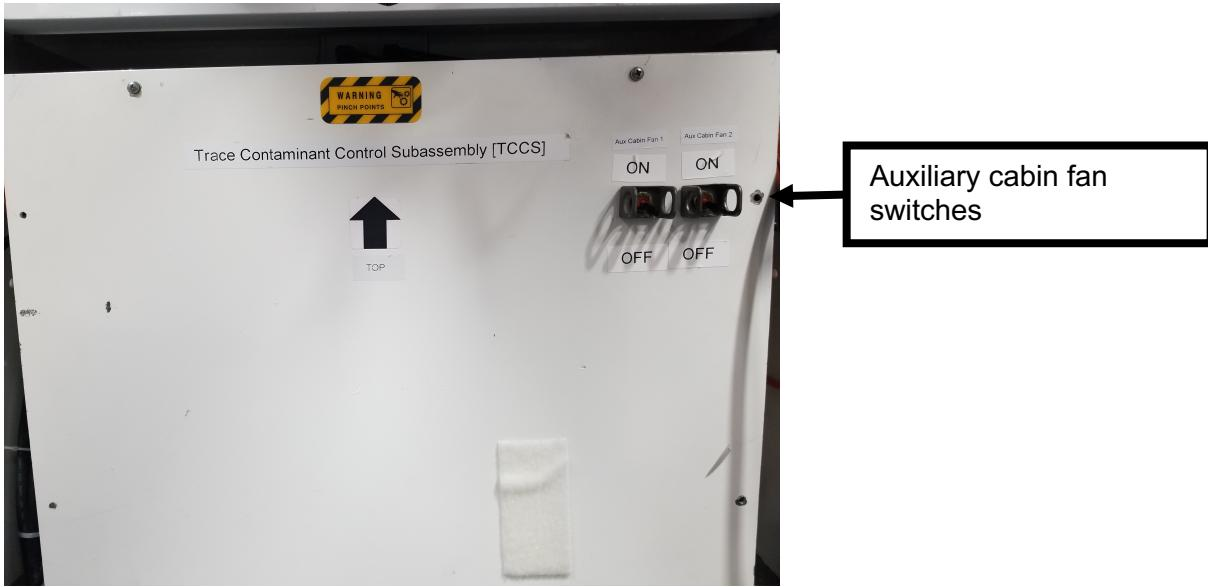

Figure 2: Trace Contaminant Control Subassembly (TCCS) Panel
2.1 On TCCS Panel, check power switches of Aux Cabin Fan 1 and Aux Cabin Fan 2 are “OFF” (see Figure 2).
- 9.1 On the TCCS Panel, flip the power switch of Aux Cabin Fan 1 to “ON” (see Figure 2).
- 9.2 On the TCCS Panel, flip the power switch of Aux Cabin Fan 2 to “ON” (see Figure 2).